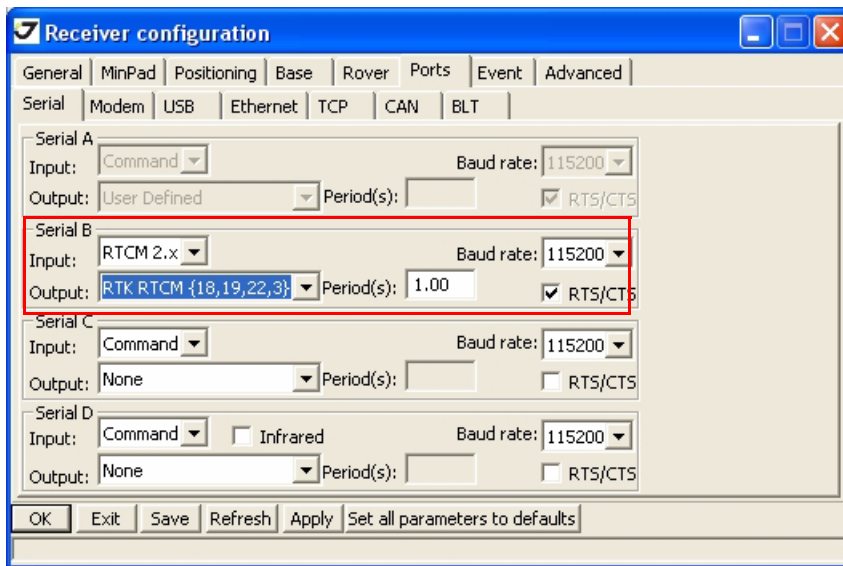

Figure 3-7. Base and Rover Configuration for RTK – Ports - If external modem is used
9. For RTK measurements, click the *Ports* tab and set the following port parameters for the serial port (Table 3-6), then click *Apply* (Figure 3-7 on page 36).